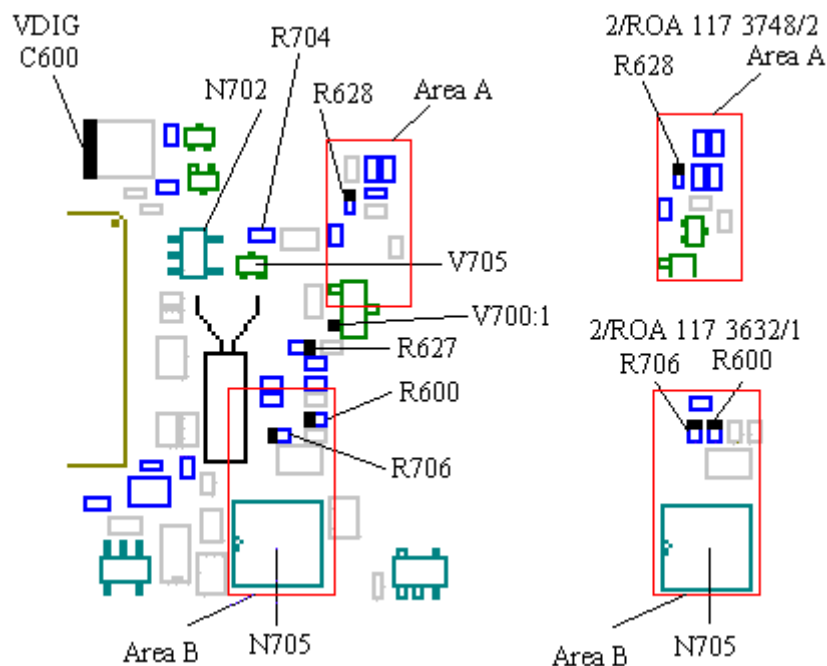

Fig. 7.4
age at N705 pin 2 (~3.1V, fig. 7.4).
- If the input voltage is too low or missing, check the VDIG feed voltage (~3.2V) at C600 (fig. 7.4).
- If it's correct, replace N702 (class A, fig. 7.4).
- If VDIG is correct, measure the resistance of R706 (class A, ~4.7 ohms, fig. 7.4). Note that at the 2/ROA 117 3632/1 boards the resistor is placed as in “AREA B” in fig 7.4.
- If the input voltage at N705 pin 2 is correct, measure the output voltage, VSIMPAD (~5V), at pin 3 of N705 (class A, fig. 7.4).
Measure the resistance of R704 (class A, ~100 kohms, fig. 7.4).
Measure the resistance of R600 (class A, ~33 ohms), R627 (class A, ~0 ohms) and R628 (class A, ~100 ohms, all in fig. 7.4). Note that at 2/ROA 117 3748/2 boards the R628 resistor is placed as in “AREA A” in fig. 7.4.